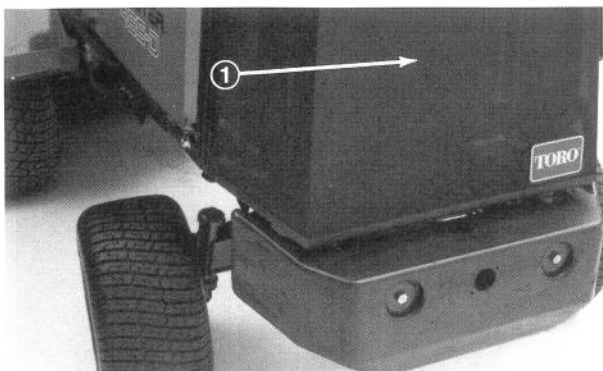

Figure 42
ENGINE COOLING SYSTEM (Fig. 42–43)
- B. Unscrew knobs and remove rear screen (Fig. 42). Clean screen thoroughly.